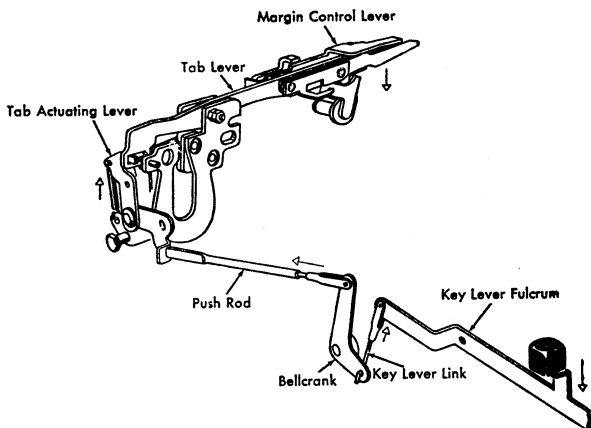

Figure 13. Margin Release
2. MARGIN RELEASE KEY LEVER LINK. Adjust as long as possible and still prevent the bellcrank from rubbing on the power roll (Figure 13). **NOTE:** Be sure machine is turned off during this adjustment.
3. PUSH ROD. Adjust so that when the margin release key lever is fully depressed, the margin control lever will safely clear the bottom of the margin stop (Figure 13). The push rod clevis may be spot-welded to the push rod. In this case, enough motion for margin release must be obtained from adjustment of the margin release key lever link.